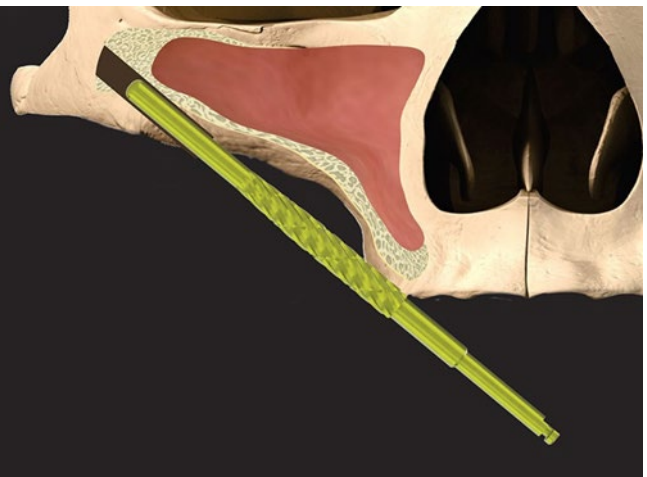

Figure 16
5. Use the ZAGA™ Side Cut Burr (CH-D-CM) to create and/or enlarge the groove made in the alveolar ridge in order to place the implant with the buccal face sitting flush with the alveolar bone outer surface (Figure 16) (CH-D-CM recommended drill speed: 800 rpm).